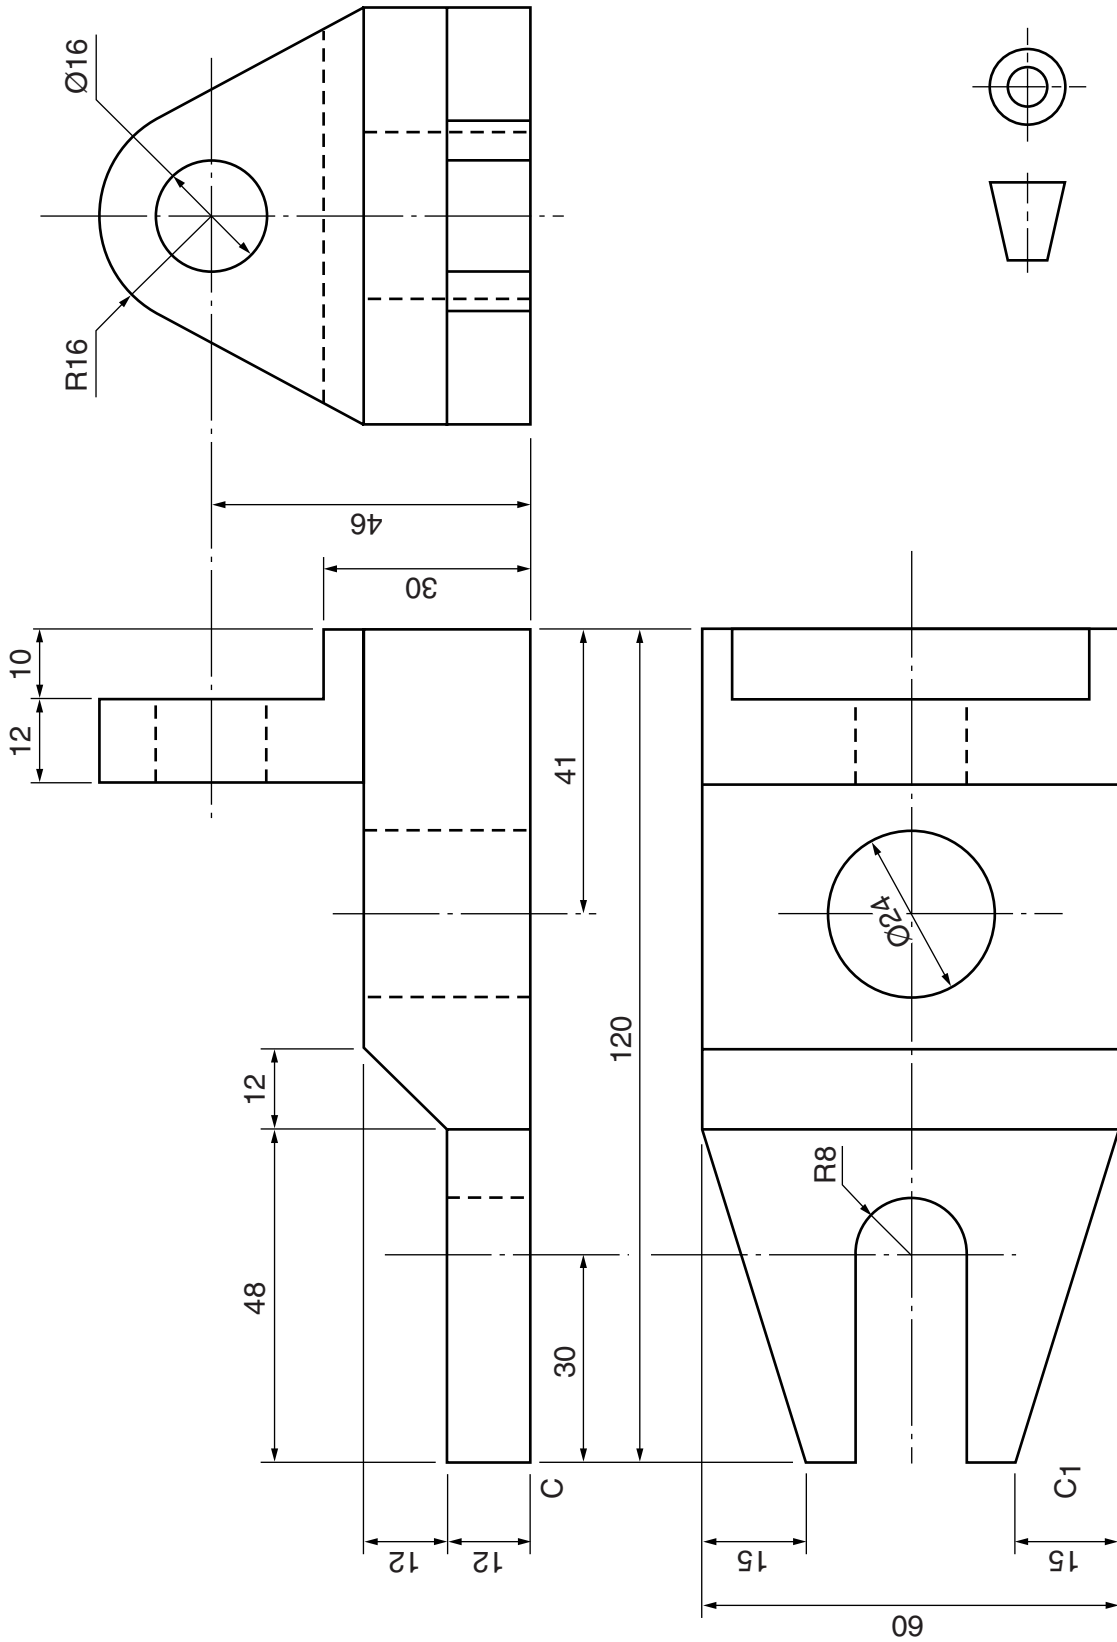

Fig. 6
- 7 Fig. 6 shows three views of a bracket drawn in first angle projection. Draw an isometric view of the bracket with corner C the lowest point in the view. Do not use an isometric scale or indicate any hidden details.